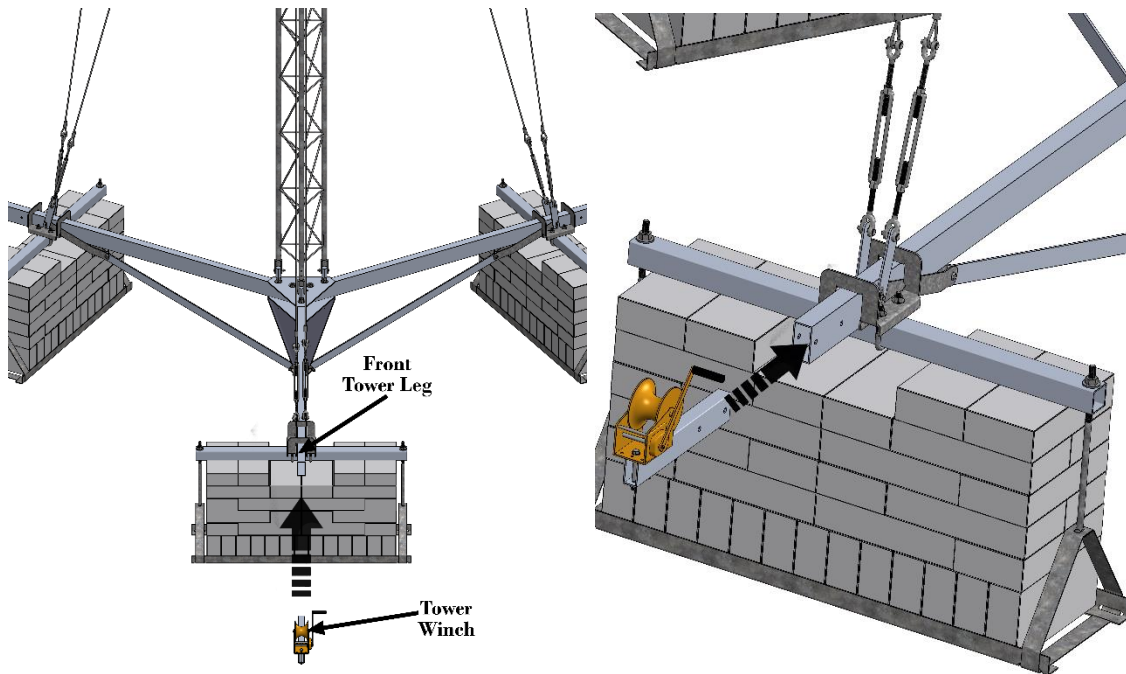
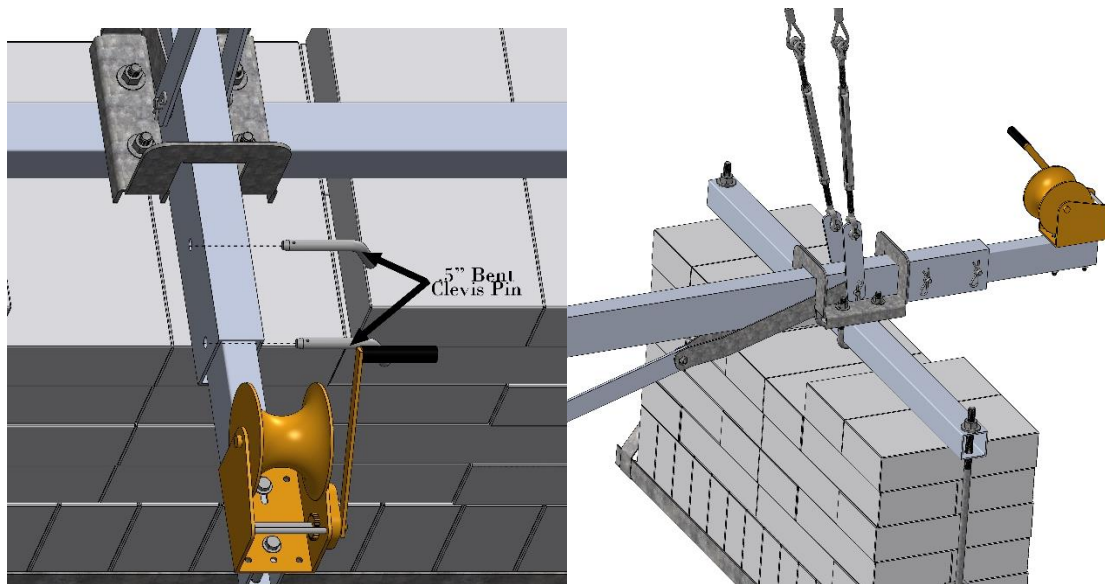

Figure 92 Inserting winch extension
Figure 93 Winch extension attachment
1. Install the winch extension piece into the front tower leg using (2) 5" clevis pins and cotter pins as per Figure 92 and Figure 93.